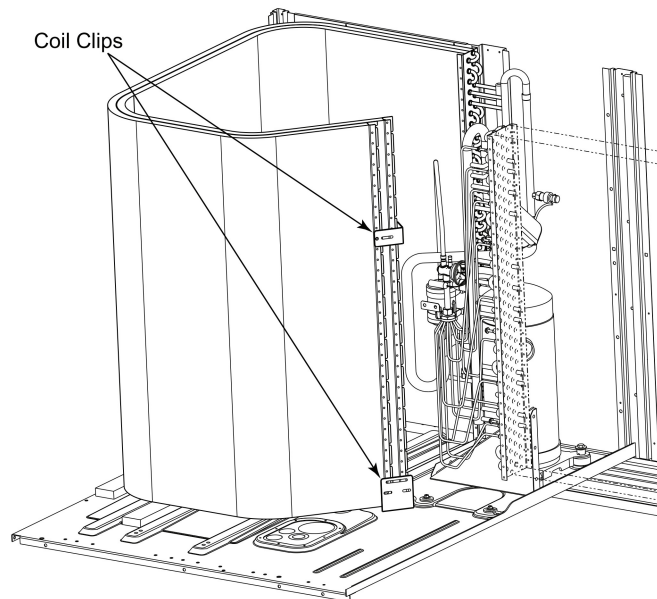

**Fig. 13 — Location of Screws and Coil Corner Post**
2. Remove all screws from the top panel except the screws securing the condenser fan to the top panel. See Fig. 13.